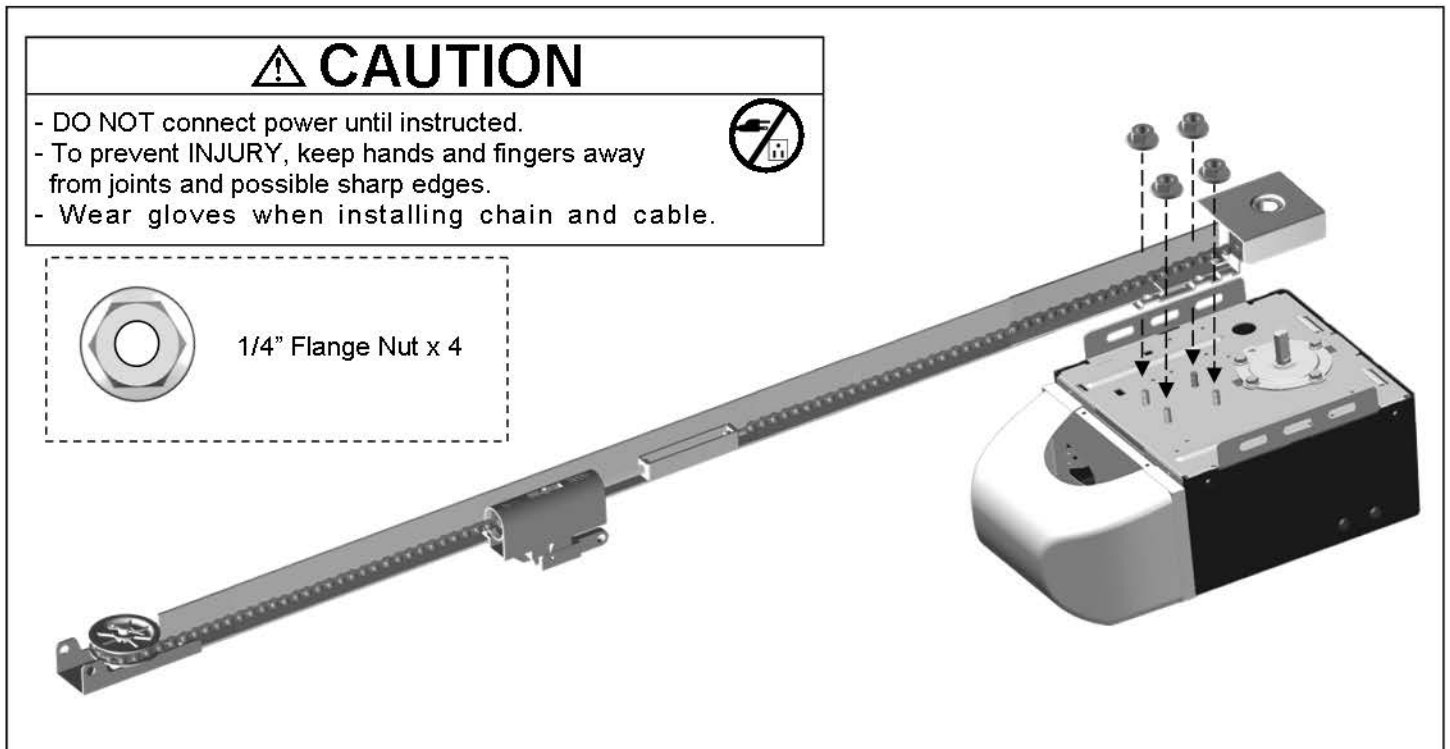

Fig.1
1. Align the T-rail on the top of opener as shown in Fig.1.